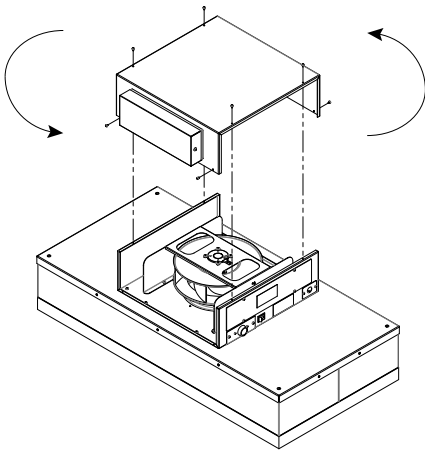

FIGURE 6: OPPOSITE EXHAUST DIRECTION CHANGE
Step 1. Remove the eight screws that secure the blower cover to the blower housing. (See Figure 6.)